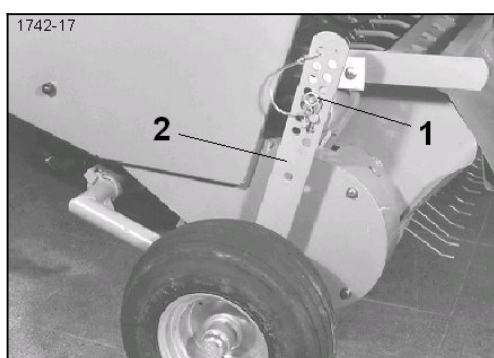

Figure 76
- ☐ Pull out spring clip [1] and fit shackle [2] in the desired hole (Figure 76).